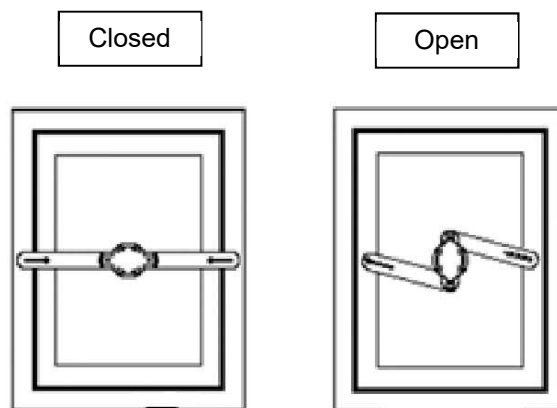

Figure 87
- ♦ Verify the functionality of the escape hatch's release mechanism prior to installation and before use. Please ensure that the hatch's arms are retracted when open and non-retracted when closed (Figure 87).